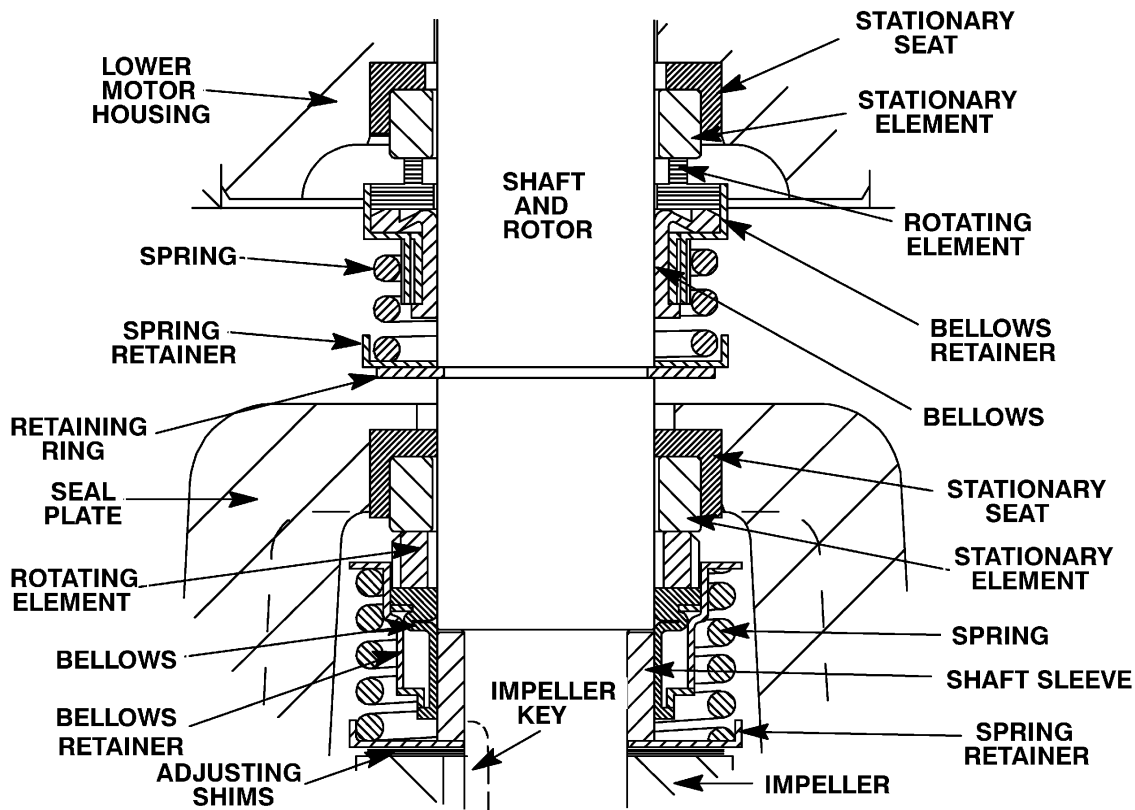

Figure C-3. Upper And Lower Seal Assemblies
Install the shaft seals as illustrated in Figure C-3.
Slide the seal spring over the shaft and bellows retainer, and install the spring holder (63). Install the seal retaining ring (5). See Figure C-3 for proper order of seal assembly.
Slide the seal spring over the shaft and bellows retainer. See Figure C-3 for proper order of seal assembly.